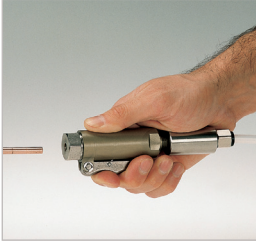

Figure 2
- ▶ Grip the connector by its connector housing (Pos. 1) and actuate the clamping lever (Pos. 2). The clamping jaws open (*Figure 2*).